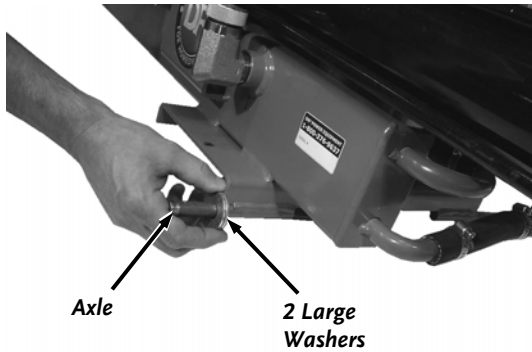

Figure 11
1. Raise one side of the Wood Splitter and slide two Large Washers over the Axle then install a Tire onto the axle (**Figure 11**).